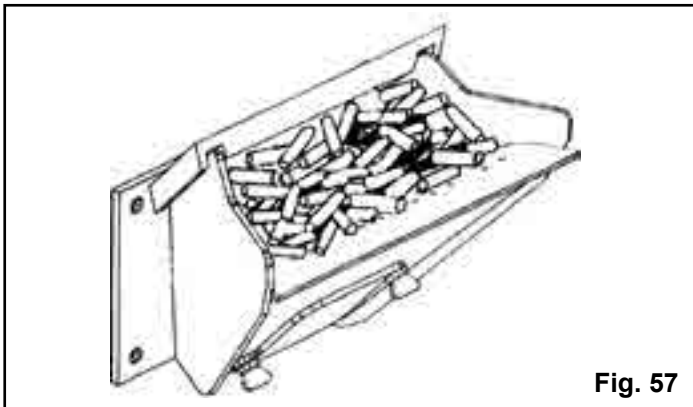

Fig. 57
8. Fill burnpot with pellets as shown. See Fig. 57. Only fill level with the front edge. (DO NOT OVERFILL)